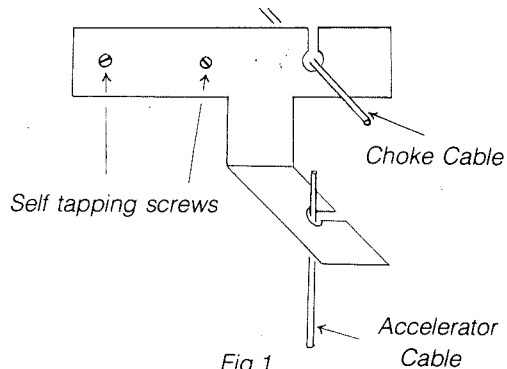

Fig. 1.
**LINKAGE:** This was more of a problem to get working correctly. I made up a bracket (Figure 1) to hold the choke and accelerator cables. This I screwed to the manifold so that it lay below the cablegrip of the accelerator and adjacent to the cablegrip of the choke. Thus, the accelerator cable acts vertically from below the choke cable horizontally towards the engine. The only problem has been to find a throttle return spring of the correct length.